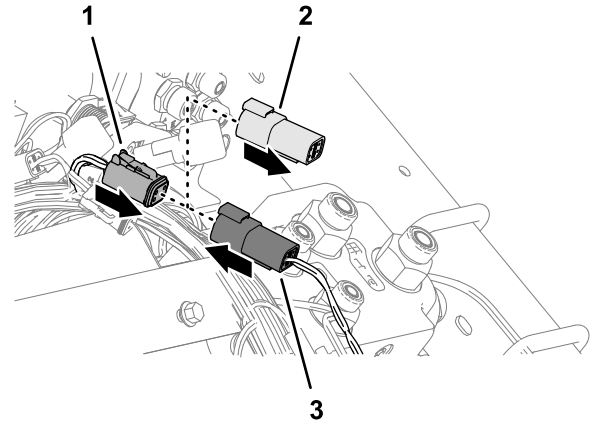

**Figure 83**
2. Plug the 12-socket wire-harness connector labeled EHI A KEY (GREY) into the 12-pin connector of the EHI steering-valve (Figure 83).
3. Plug the 2-socket wire-harness connector labeled EHI SOLENOID into the 2-pin connector of the EHI-solenoid (Figure 83).